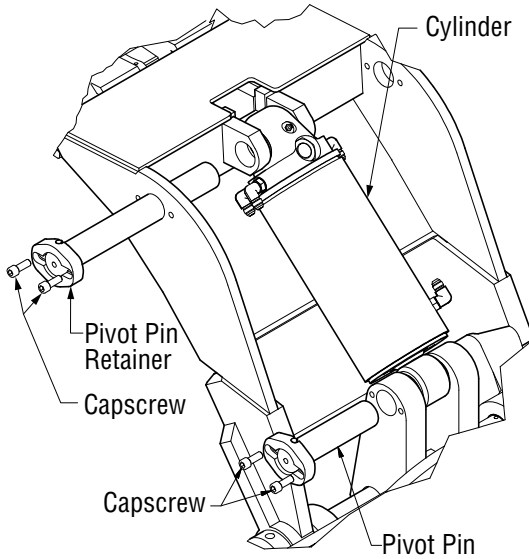

Figure 5-34, Pivot Pin Retainers
3. Remove the pivot pin retainers and cylinder. (Figure 5-34)